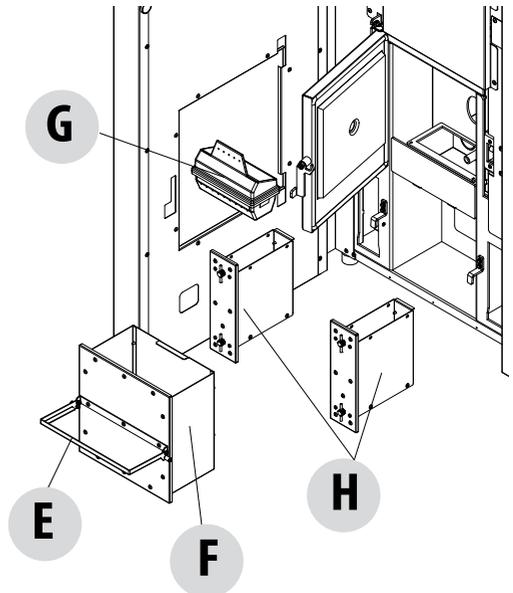

Figure 2
- **Clean the smoke conveyor compartment (fig.2)** - The boiler is fitted with three removable pans to clean out the ash, designed to collect any soot and ash build-up. To empty the pan **F** it is necessary to grasp the handle **E**, lower it and pull the drawer outwards. To empty pans **H** it is necessary to turn the two hooks on the front of the pan and pull towards yourself.